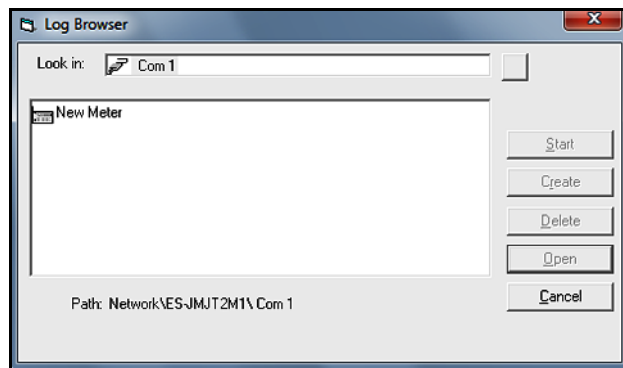

Figure 74: Meter Selection
- b. Double-click *communication port name* to move to the network level shown in Figure 74 below.